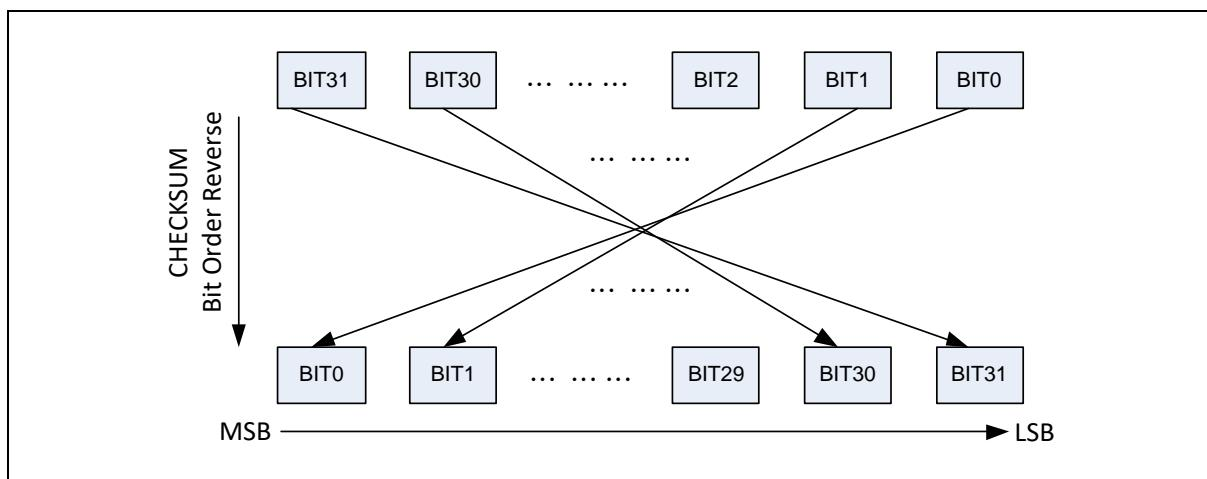

Figure 6.22-2 CHECKSUM Bit Order Reverse Functional Block
- Configure bit order reverse for CRC checksum by setting CHKSREV (CRC_CTL[25] Checksum Bit Order Reverse). The functional block is also shown in Figure 6.22-2 CHECKSUM Bit Order Reverse Functional Block